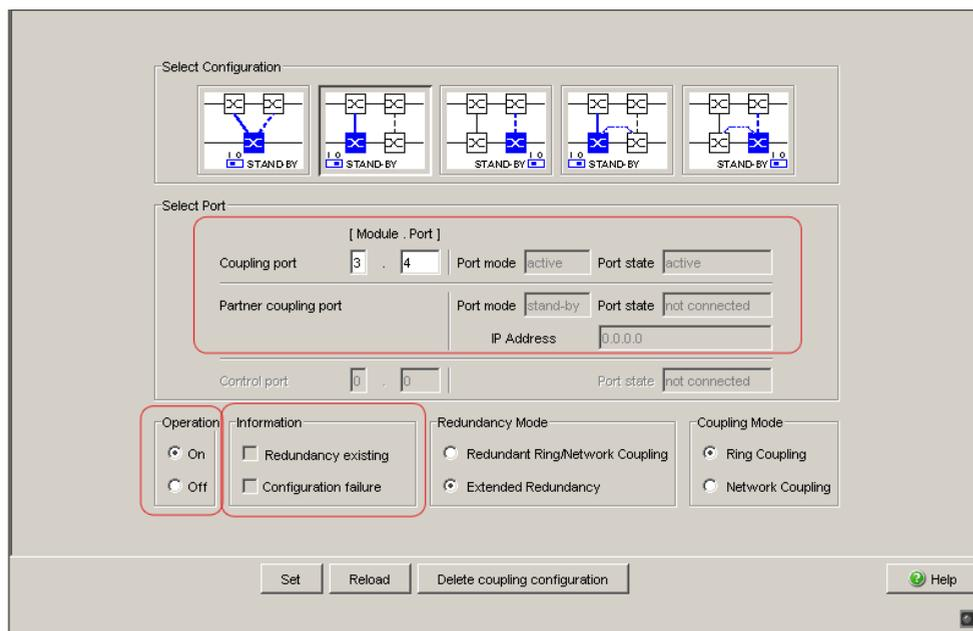

Figure 28: Selecting the port and enabling/disabling operation
- Select the coupling port (see fig. 28), (see table 11).
- Activate the function in the “Operation” frame (see fig. 28).
- Select the coupling port (see fig. 28), (see table 12).
- The displays in the “Select port” frame mean (see fig. 28):
- The displays in the “Information” frame mean (see fig. 28):
□ Activate the function in the “Operation” frame (see fig. 28).
The displays in the “Select port” frame mean (see fig. 28):
The displays in the “Information” frame mean (see fig. 28):